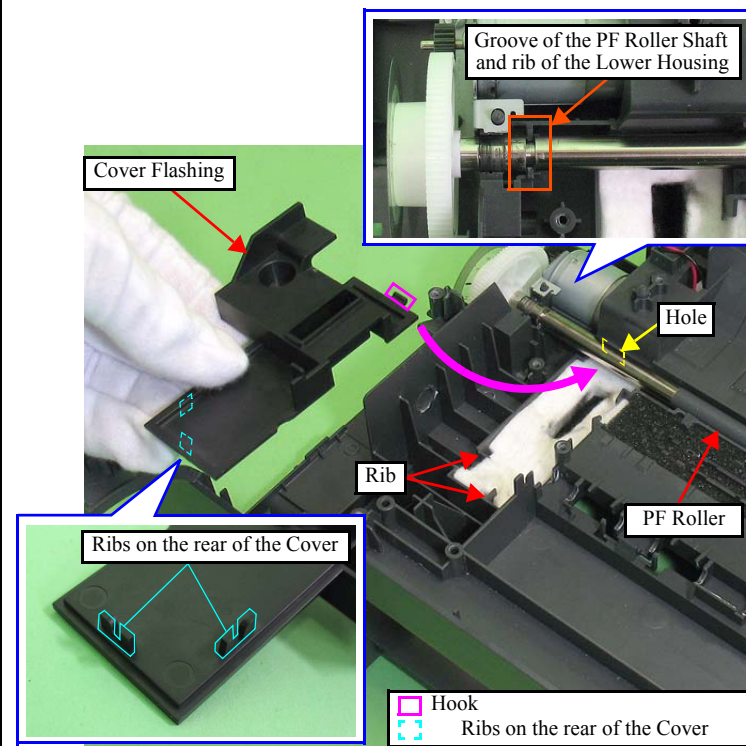

Figure 4-89. Installing the Cover Flashing
- Before installing the PF Roller, align the groove of the PF Roller Shaft with the rib of the Lower Housing. (See Fig.4-89.)